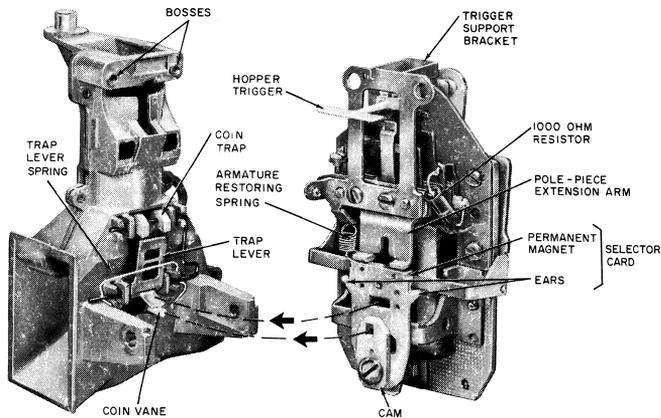

Fig. 8—1AA Coin Relay
**F. Coin Relay and Hopper Assembly (Fig. 8)**